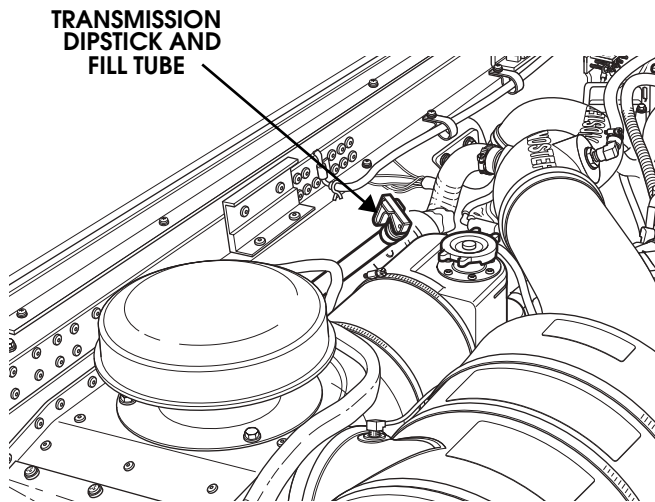

Figure 1-22: Transmission Dipstick Location
5. Remove transmission dipstick and check level (Figure 1-22). Correct level is within crosshatch marks on dipstick.